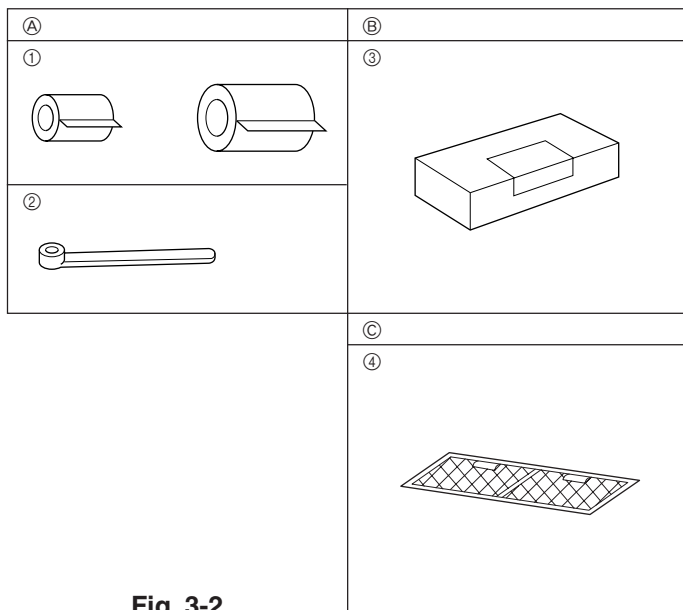

Fig. 3-2
3.2. Checking the indoor unit accessories (Fig. 3-2)